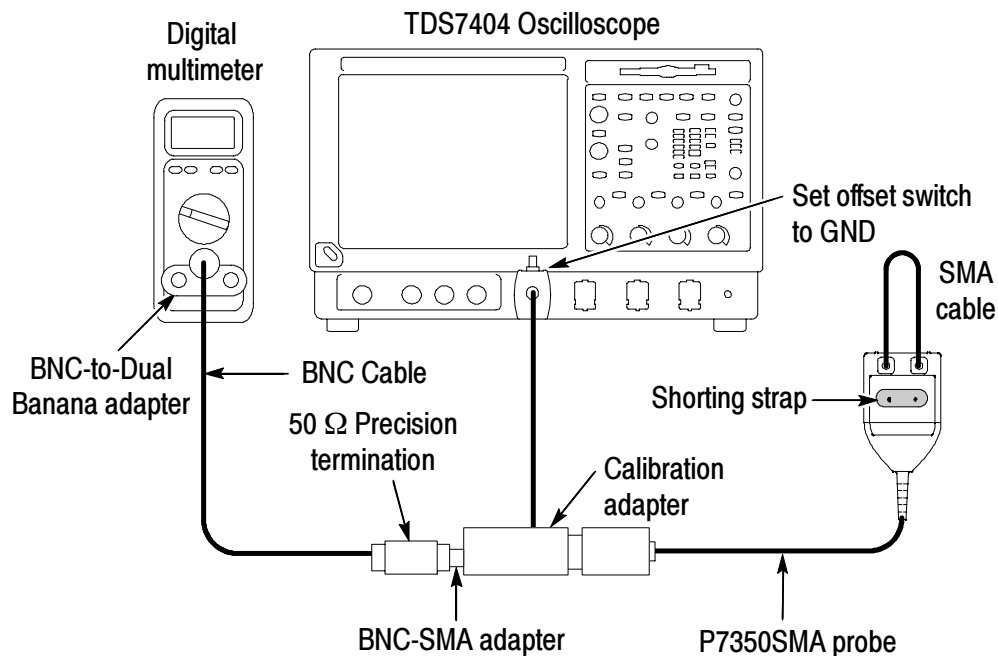

Figure 28: Setup for the output offset zero test
1. Connect the equipment as shown in Figure 28.